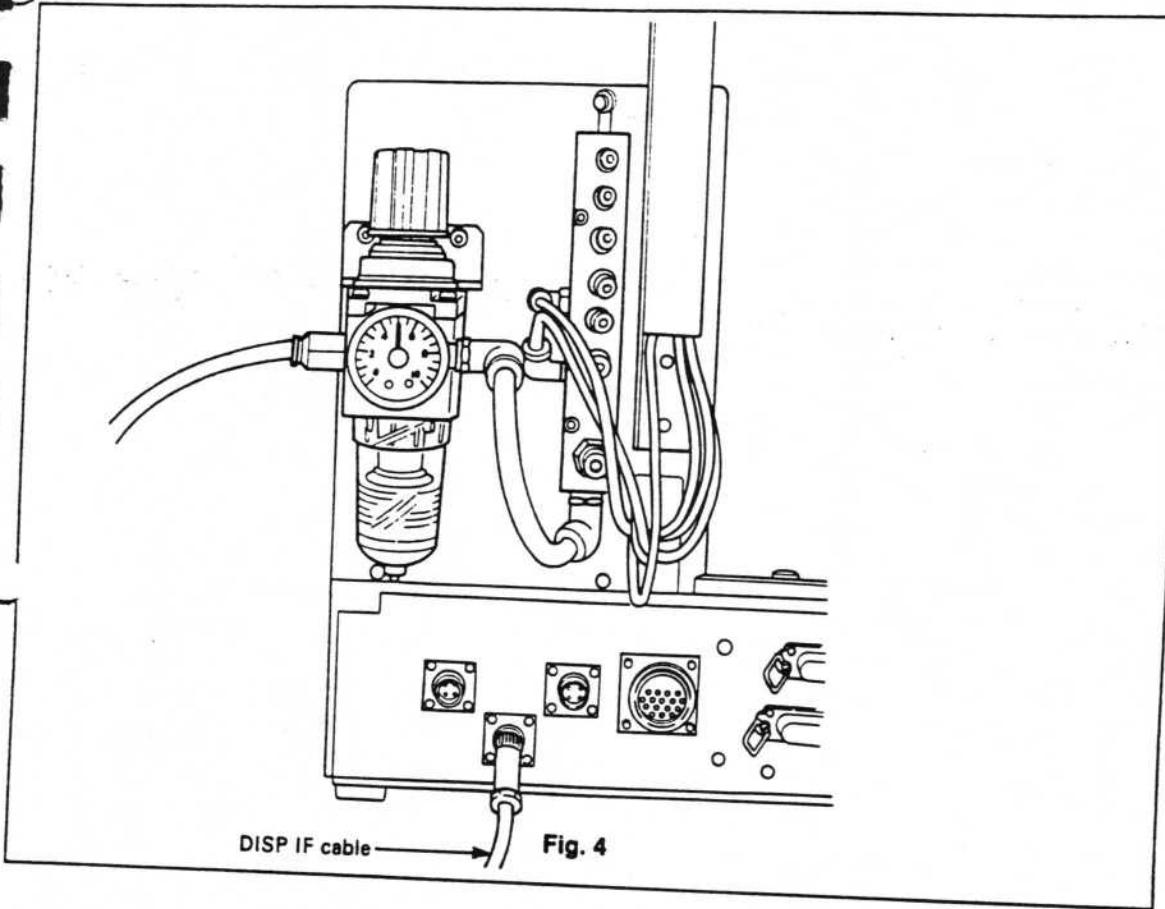

Fig. 4
- (3) Disconnect the DISP IF cable from the connector at the back of the mounter main unit (see Fig. 4).